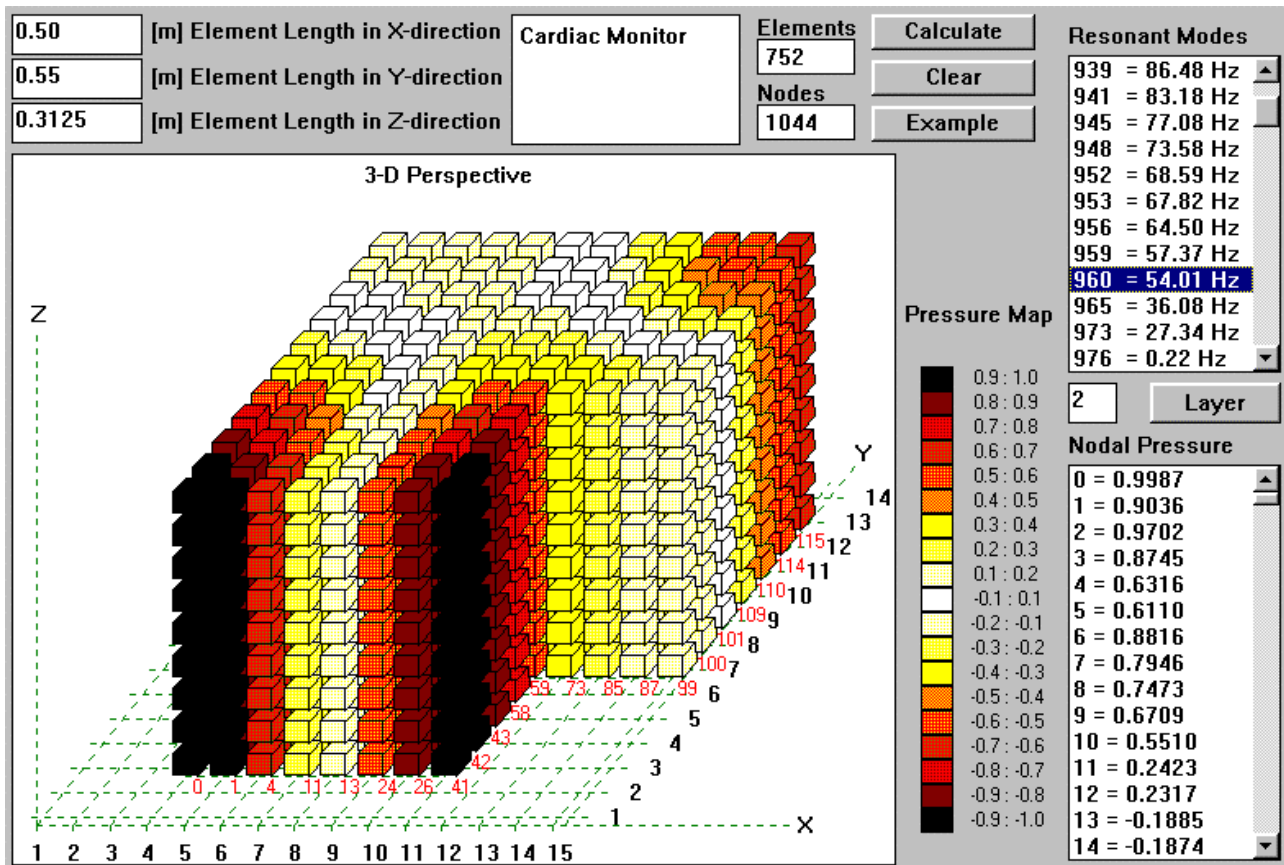

Figure 8. Pressure distribution of the 54Hz mode
3. Fig 8 shows pressure distribution of the 54Hz mode. The two curved lines running from the sides of the room indicate, the this is higher order mode.
Higher modes, shown on Figures 8,9 and 10 are useful in understanding what is the cost of this particular arrangement and I suggest you draw your own conclusions here.